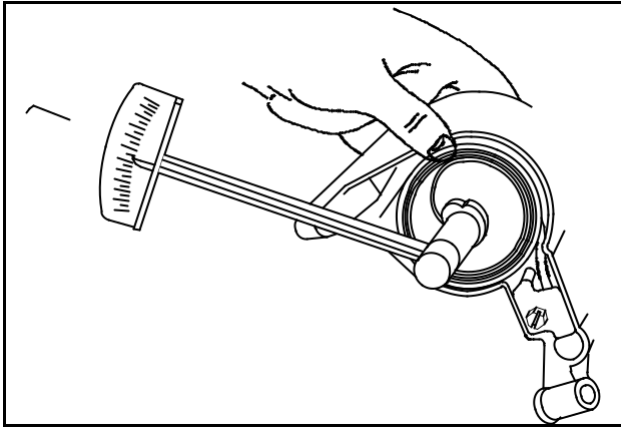

Fig. 633 – TIGHTENING SCREW
13. Lubricate spring with a small quantity of engine oil or lubricant, Fig. 633.